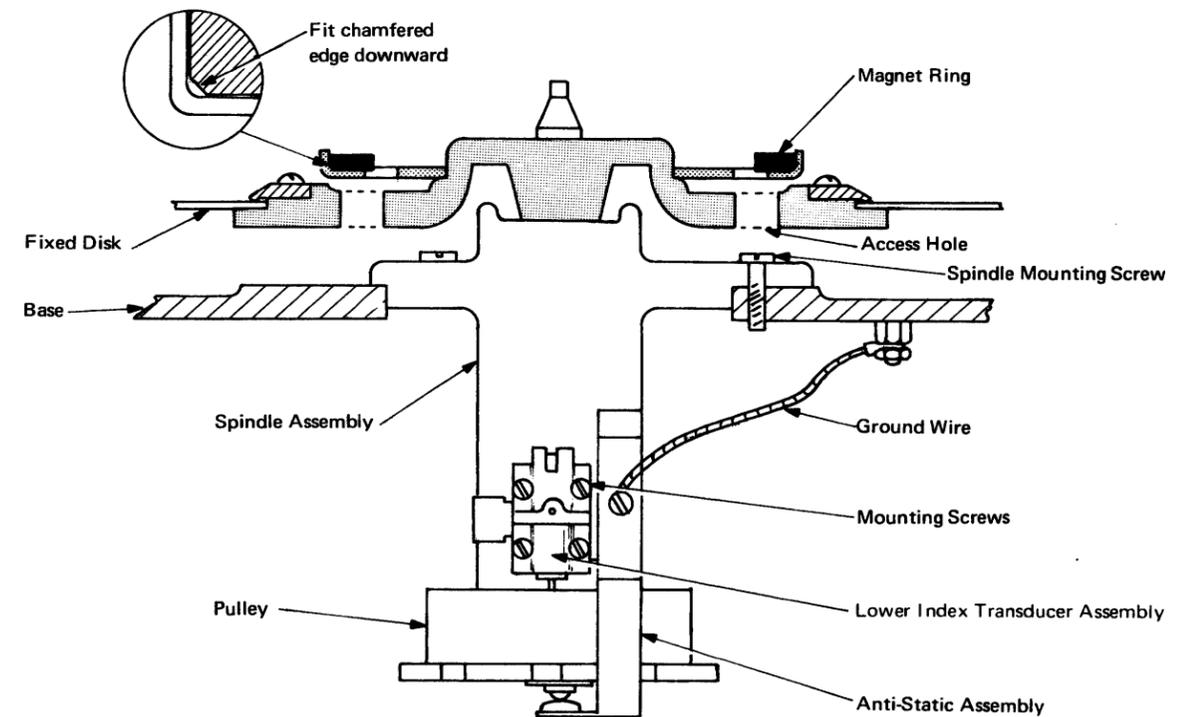

Figure 2-22. Spindle Assembly [07547]
6. Remove anti-static assembly and ground wire from spindle (Figure 2-22), and lower index transducer assembly (see 4.2.4.2).
7. Lift magnet ring out of the chuck (see Figure 2-22) with a screwdriver, without damaging the ring.
1. Insert spindle assembly (see Figure 2-22) into machine, with lower transducer mounting facing towards Y logic gate.
3. Tighten all three screws down evenly. Refit magnet ring, with chamfered edge downwards as shown in Figure 2-22.